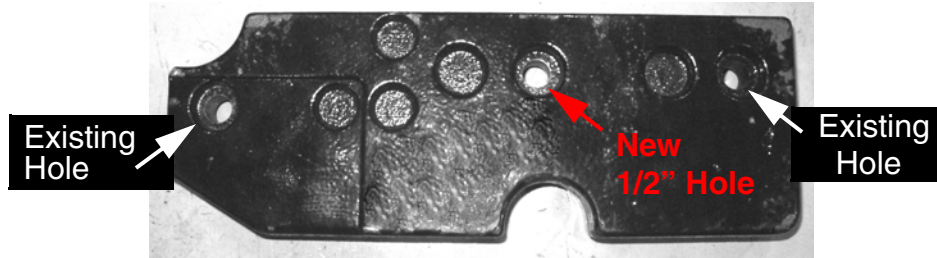

FIGURE 1
1. Position frame weight onto the drill press table and align the 1/4" drill bit (in chuck) with the center of the counter bore shown in Figure 1. Clamp the weight securely to the drill press table.